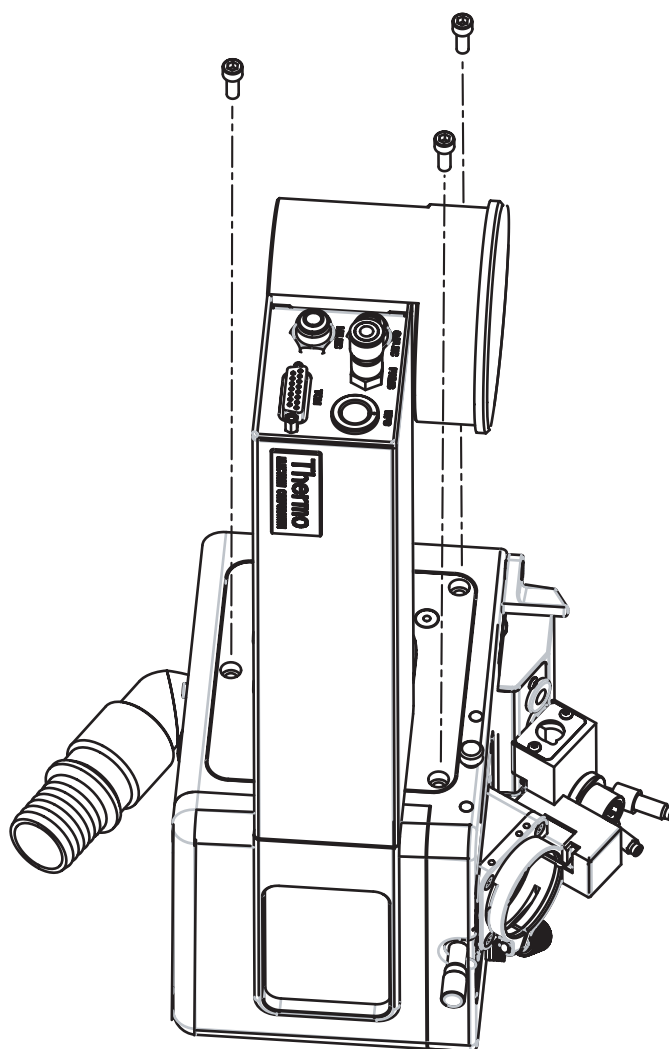

Figure 59. FAIMS interface and Ion Max housing, showing the three screws that secure them together
1. With a 5/32 in. ball driver, loosen and remove the three screws that secure the FAIMS interface assembly to the Ion Max housing, as Figure 59 shows.
3. Insert the three screws that secure the FAIMS interface assembly to the Ion Max housing and tighten with a 5/32 in. ball driver, as Figure 59 on page 84 shows.